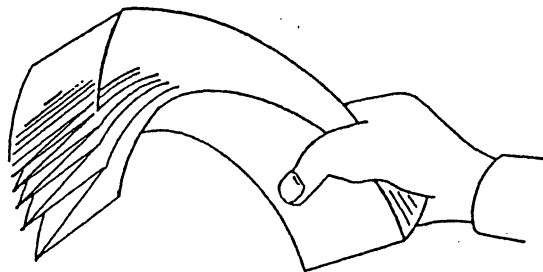

Figure 3.3
- (1) Before installing recording chart, shake both edges of the chart to prevent double sheet feed. (Figure 3.3)